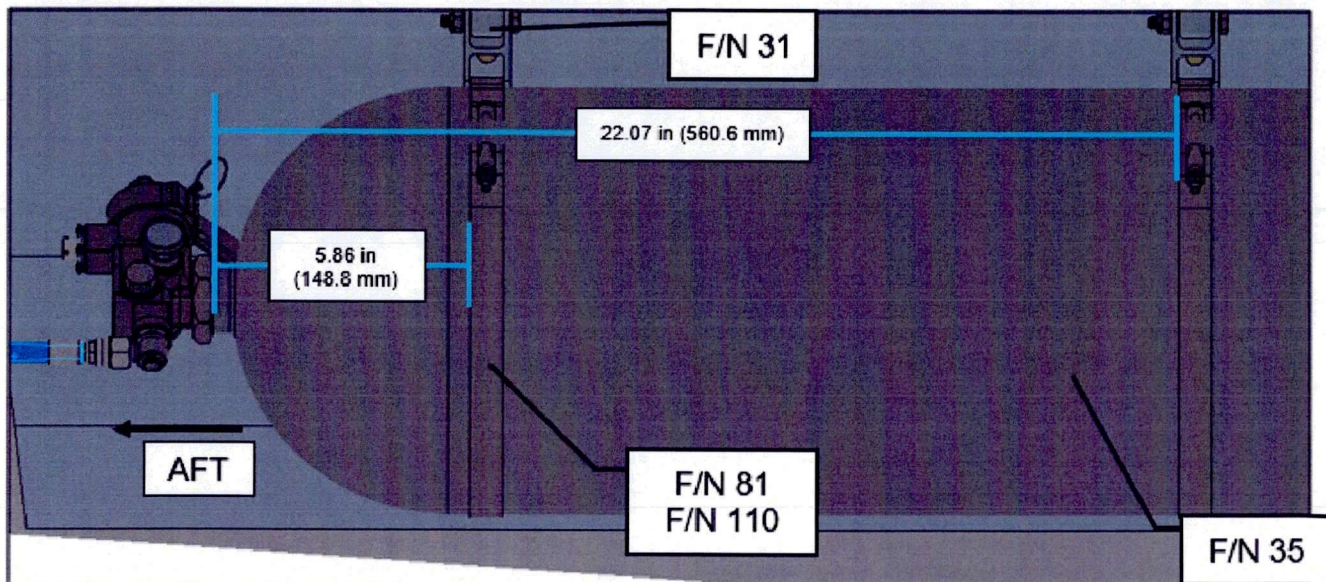

FIGURE 3: FLOAT RESERVOIR ALIGNMENT (APPROX. DIM.), RH HC VIEW
1. Reference Figure 3 of this DSI for the correct alignment of the Float Reservoir.